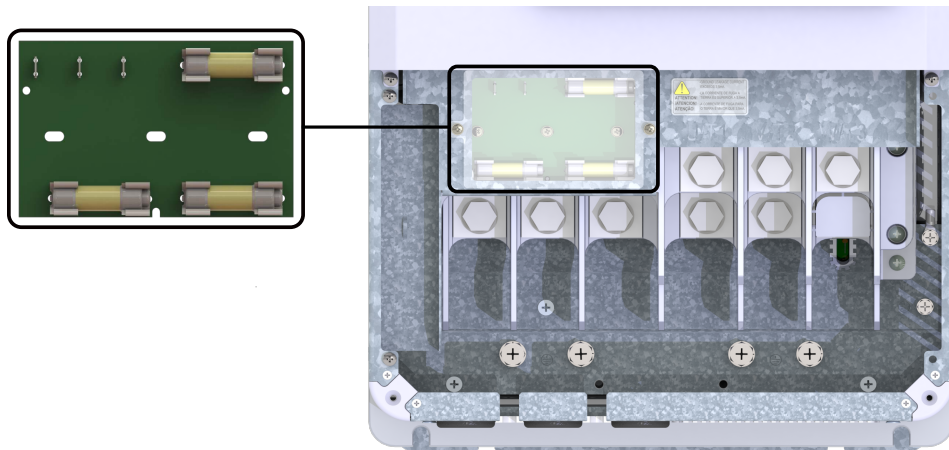

Figure 3.11: Fuses for the control circuit
- The location of the FPC90E board is shown in Figure 3.11.